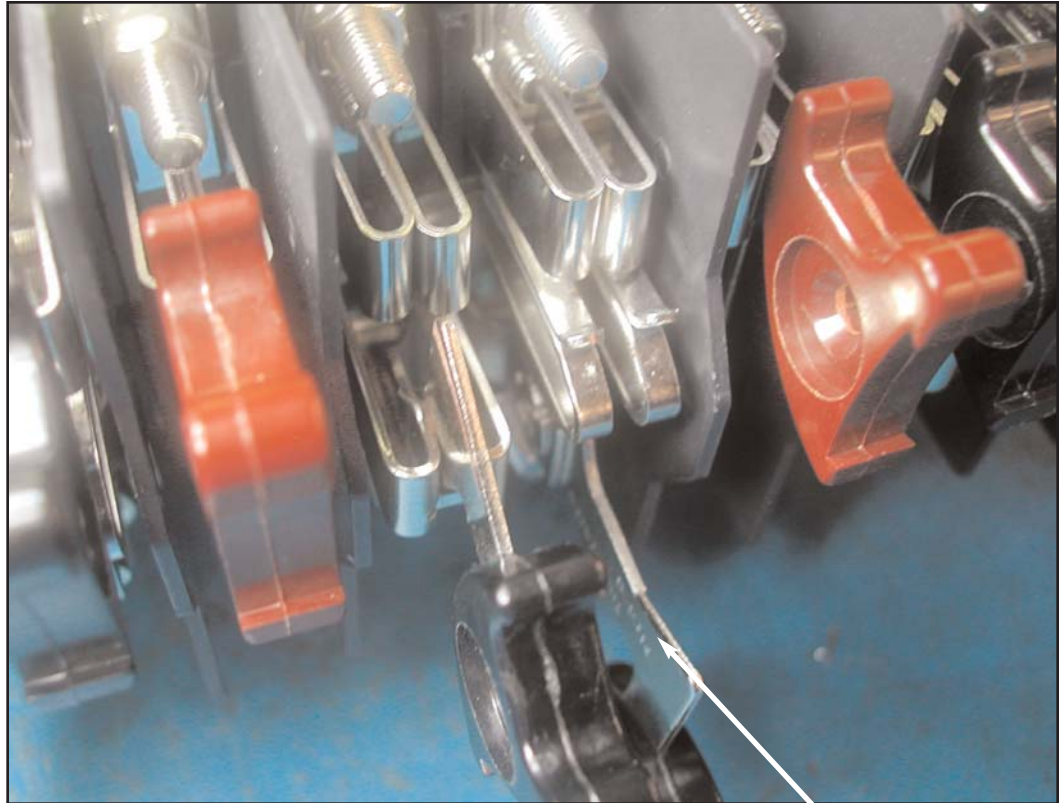

Fig. 3.14: Open Shunt Jack
5. Open the **Shunt Jack** and allow clearance for the Current Test Plug to be inserted by pulling back on the Shunt Jack Lever as far as it will go. (Fig. 3.14).